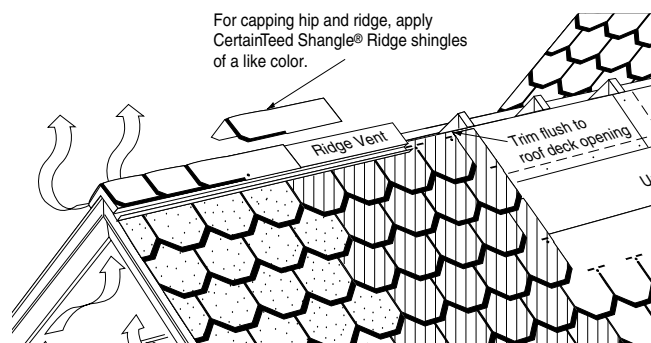

Figure 17-16: Installation of Shangle Ridge shingles on ridge vent.
8. If shingle-over ridge vents are being installed (Figure 17-16), they must match the 12" width dimensions of the hip and ridge caps. Be sure to follow the ridge vent manufacturer's instructions. To attach the cap shingles to the shingle-over ridge vent, use hot-dipped galvanized nails of sufficient length to penetrate 3/4" into, or through, the deck.